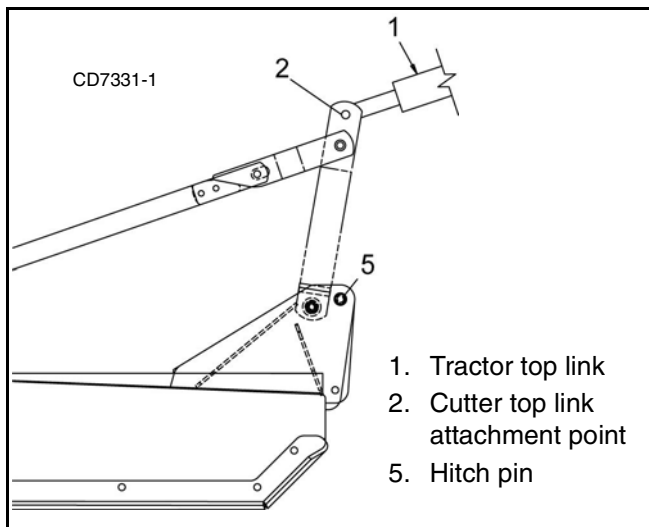

Figure 2. Cutter to Tractor Connection
1. Attach tractor 3-point lift arms to category I or category II side of hitch pins (5) and secure (Figure 2).
2. Attach tractor top link (1) to cutter top link attachment point (2).